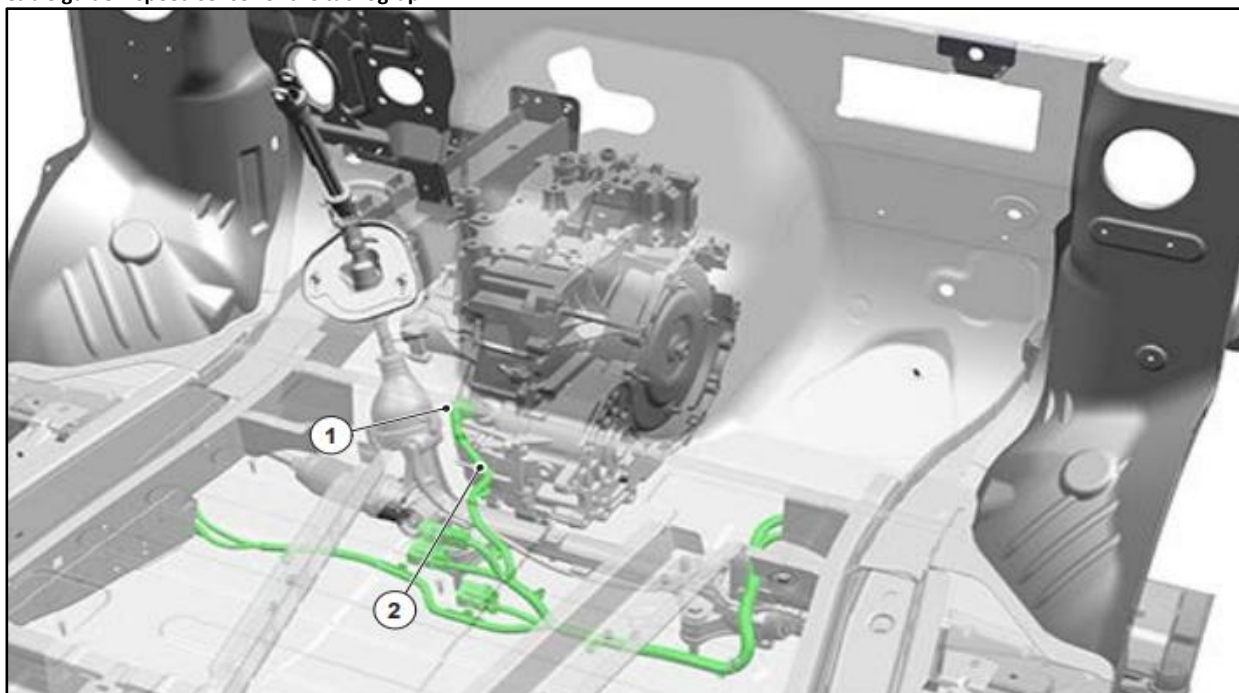

Fig. 1: Cable guide – speed sensor of the tachograph
- Wiring harness – driving speed sensor, see Figure 1 in chapter 4.11.2 for cable guide